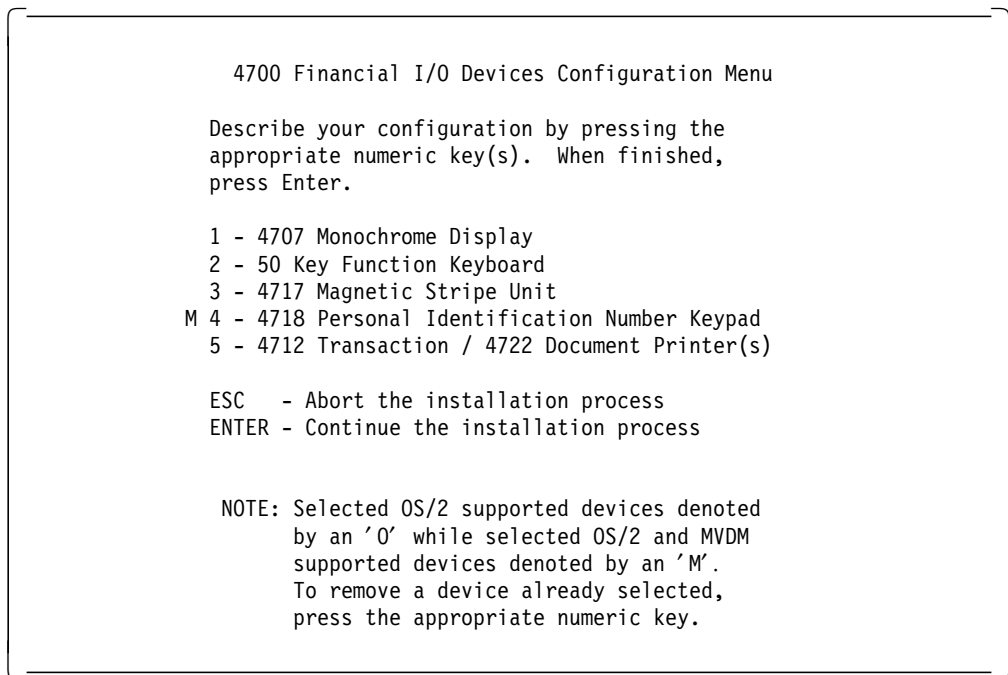

Figure 53. 4700 Financial I/O Device Configuration Menu
2. After selecting the desired option press Enter and Figure 53 will be re-displayed.